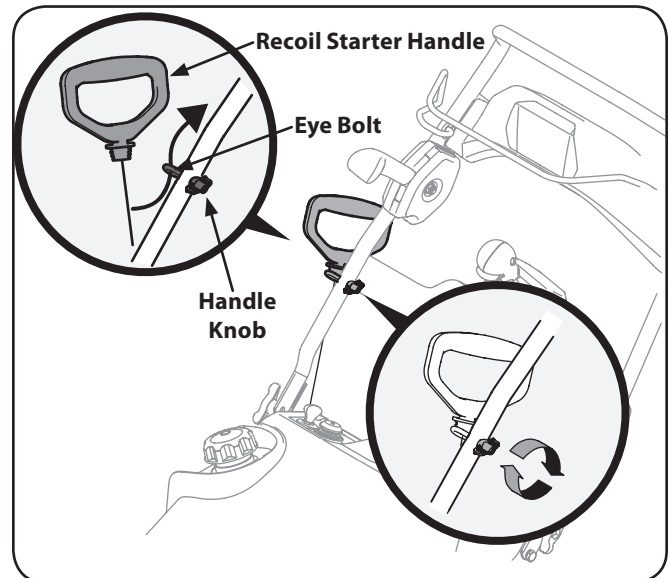

**Figure 3-9**
6. Slide the rubber bellow over the universal joint. See Fig. 3-9.